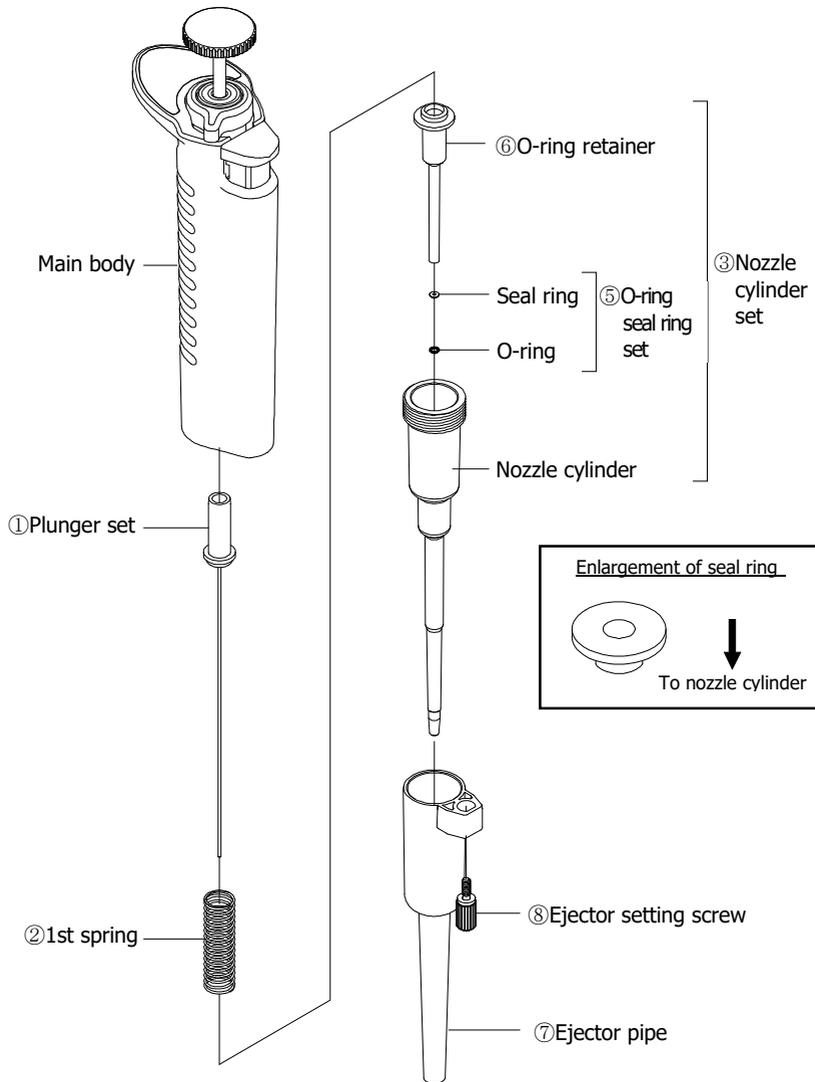
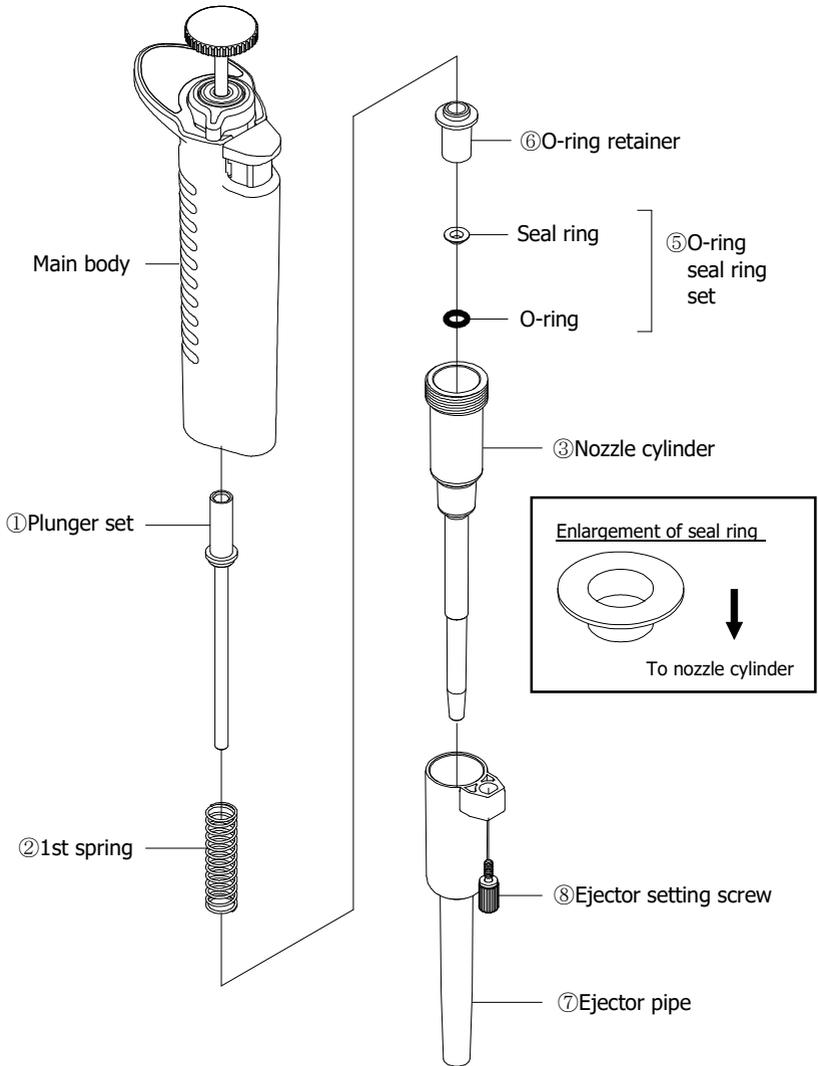
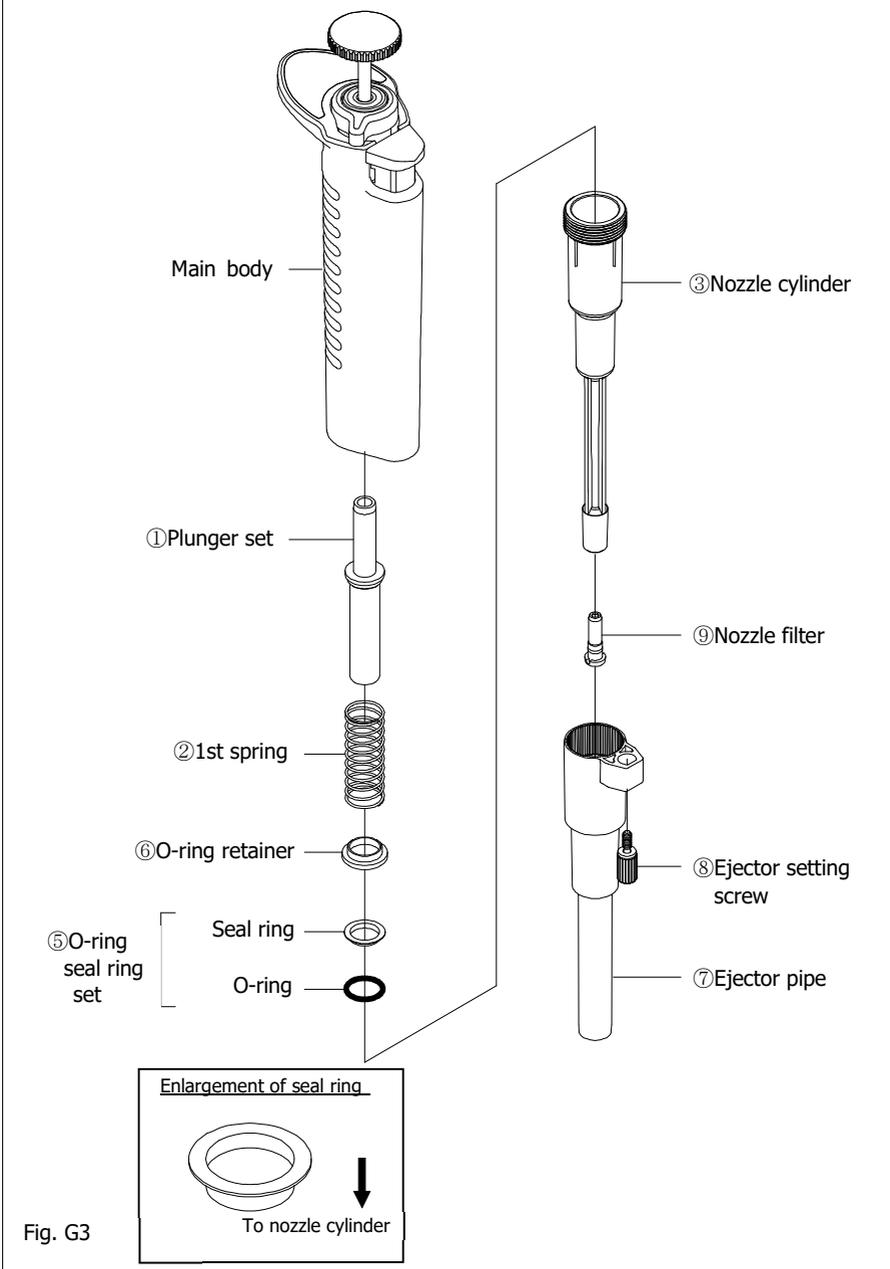

Fig. G1
Fig. G2
Fig. G3
- 3) Disassemble the internal parts as shown in; (Fig. G1) for Models: 2 μ L, 10 μ L and 20 μ L, (Fig. G2) for Models: 100 μ L and 200 μ L, and (Fig. G3) for the Model: 1000 μ L.
- For models: 2 μ L, 10 μ L, 20 μ L (Fig. G1), 100 μ L and 200 μ L (Fig. G2), 1000 μ L (Fig. G3)
- Models: 2 μ L, 10 μ L, 20 μ L (Fig G1), 100 μ L and 200 μ L (Fig. G2), 1000 μ L (Fig. G3)
Circled Numbers in (Fig. G1) corresponds to Parts Numbers in the replacement parts list.
Circled Numbers in (Fig. G2) corresponds to Parts Numbers in the replacement parts list.
Circled Numbers in (Fig. G3) corresponds to Parts Numbers in the replacement parts list.